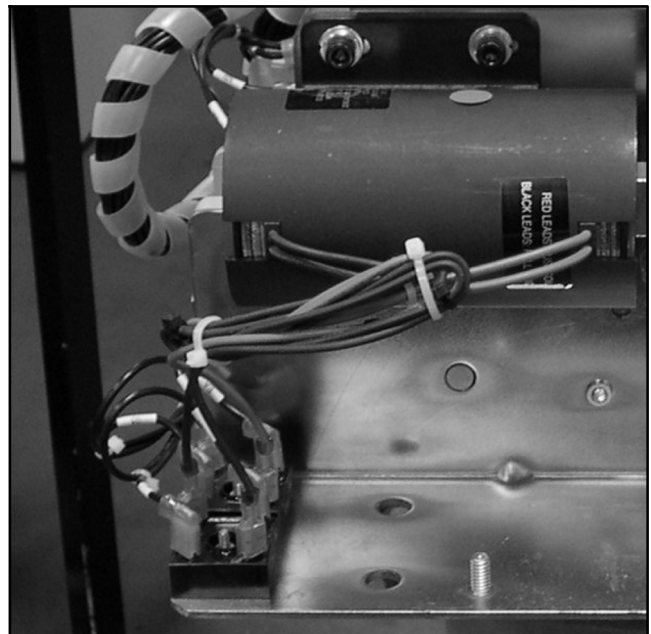

Figure 7-88 Rectifier Fast-On Connectors (contactor shown on the bench)
- Remove the DC fast-on connections from the rectifier terminals. See Figure 7-88.